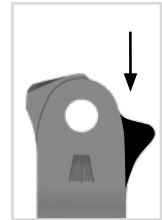

fig. 25
- 3 If necessary, grind the nose for the pressure spring at the system stirrup (fig. 25).